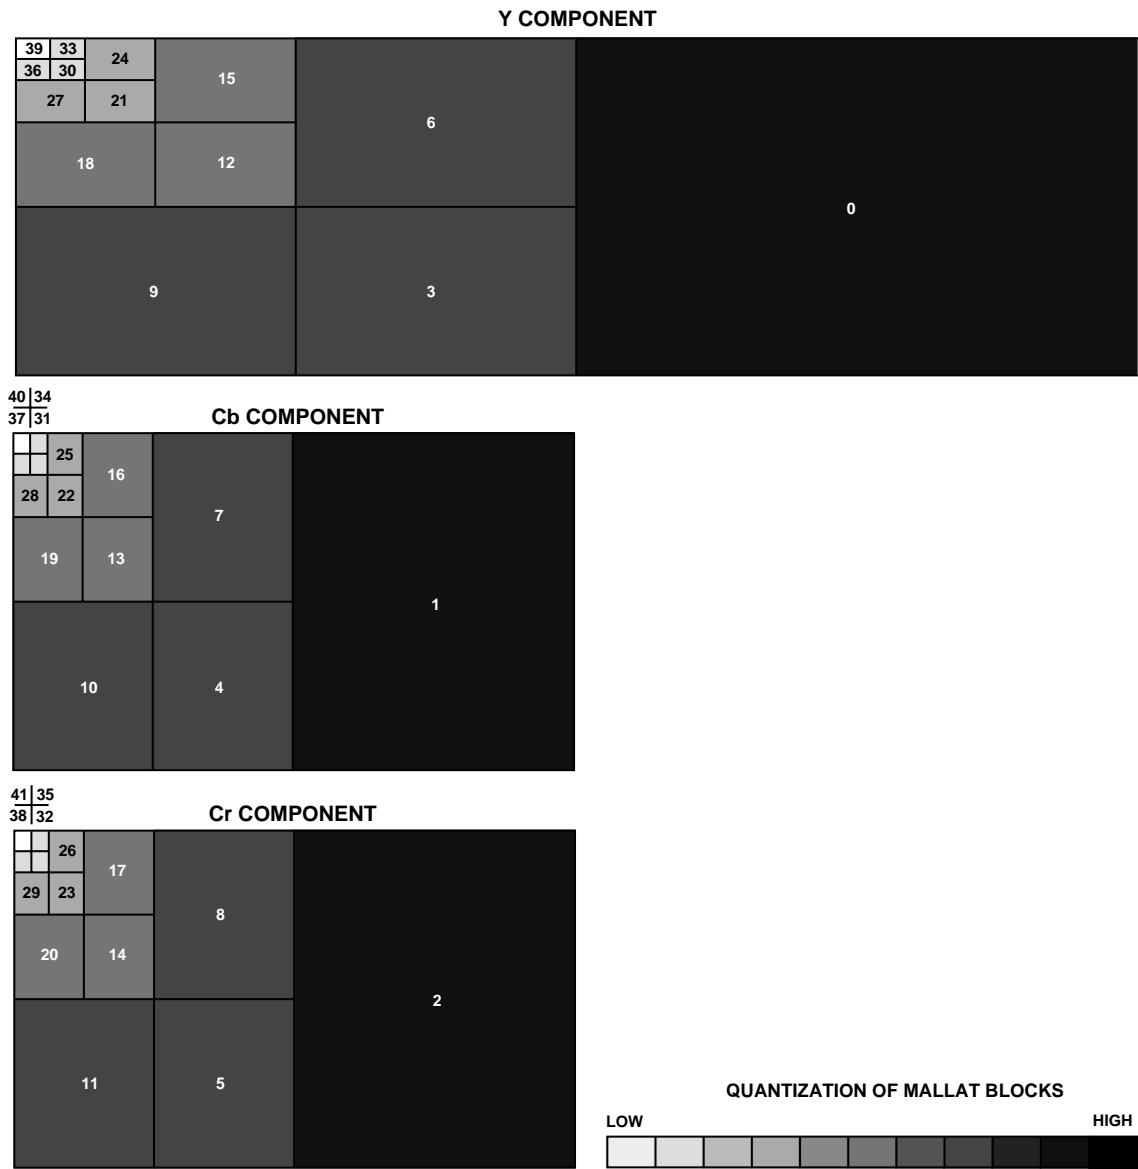

Figure 10. Typical Quantization of Mallat Data Blocks (Graphed)
Figure 10 shows how a typical quantization pattern applies over Mallat block data. The high frequency blocks receive much larger quantization (appear darker) than the low frequency blocks (appear lighter). Looking at this figure, one sees some key point concerning quantization: (1) quantization relates directly to frequency in Mallat block data and (2) levels of quantization range widely from high to low frequency block. (Note that the fill is based on a log formula.) The relation between actual ADV611/ADV612 bin width factors and the Mallat block fill pattern in Figure 10 appears in Table III.
1The Mallat block numbers, Bin Width factors, and Reciprocal Bin Width factors in Table III correspond to the shading per-cent fill) of Mallat blocks in Figure 10.